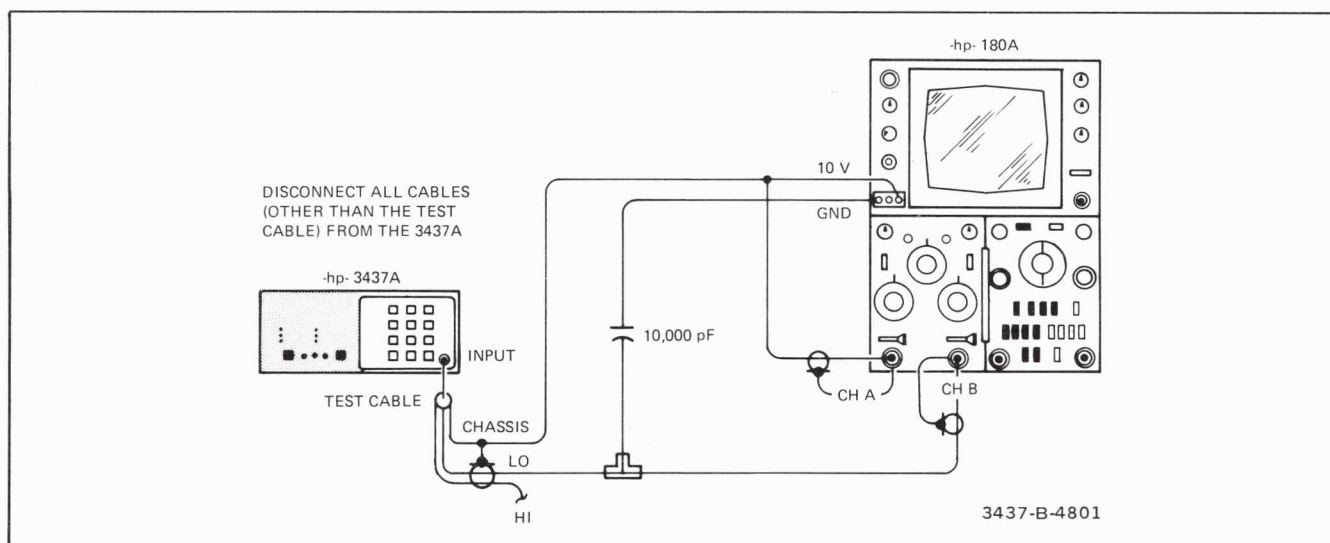

Figure 5-8. CMRR Test Set-Up.
- a. Connect the equipment as illustrated in Figure 5-8. (Remove the line cord from the 3437A.)